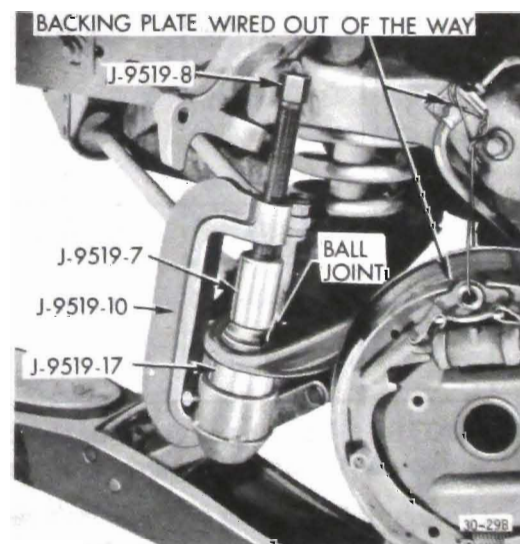

Figure 30-32 - Lower Ball Joint Remover in Place
6. Install lower ball joint remover and installer as shown in Figure 30-32.